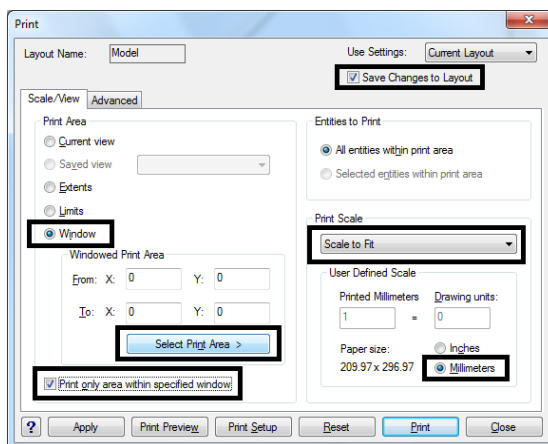

Fig. 329 – Print dialog box
- the **Print** dialog box will open (Fig. 329);